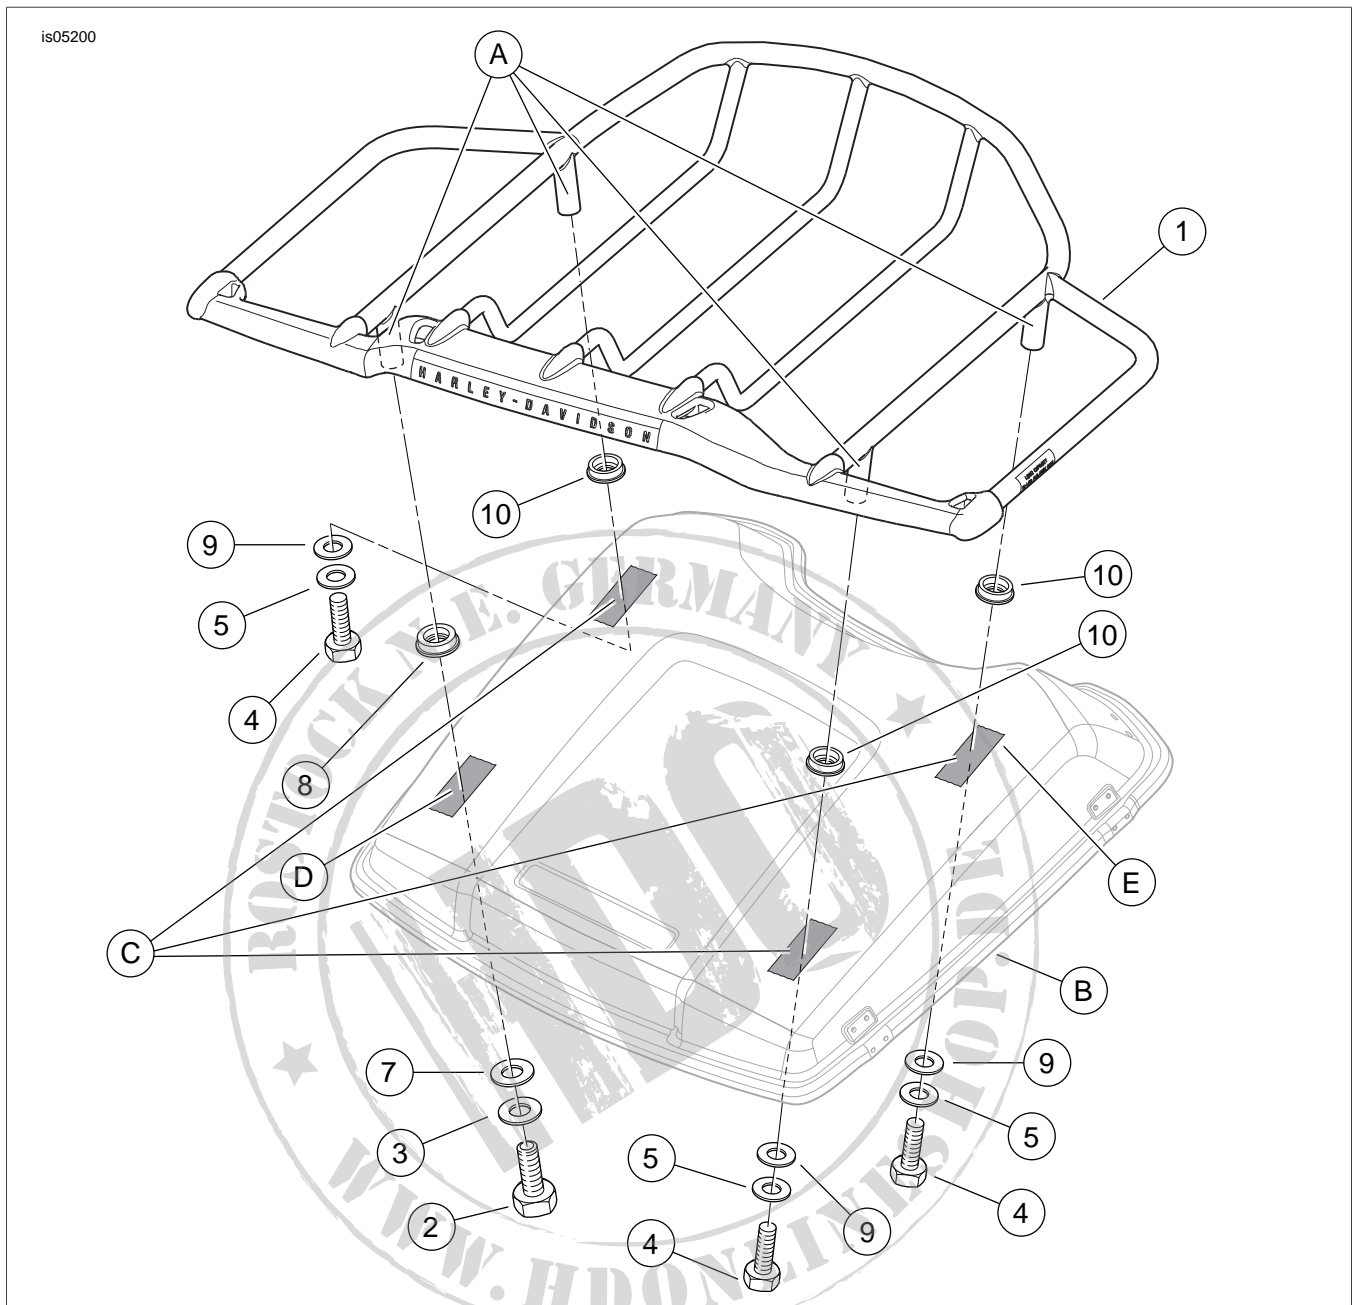

Figure 1. Service Parts, Air Wing Tour-Pak Lid Rack
See Figure 1 and Table 1.
2. See Figure 1. Slip the **larger diameter** mounting pad (8) onto the left-rear leg, and the three smaller diameter mounting pads (10) onto each of the remaining mounting legs (A) of the Tour-Pak® Lid Rack (1).